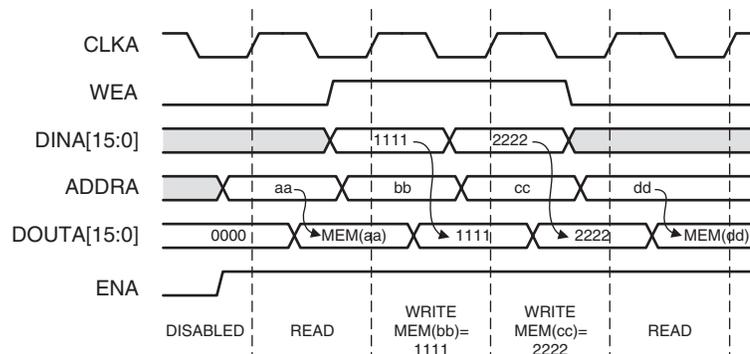

Figure 9: Write First Mode Example
- **Write First Mode:** In WRITE\_FIRST mode, the input data is simultaneously written into memory and driven on the data output, as shown in Figure 9. This transparent mode offers the flexibility of using the data output bus during a write operation on the same port.